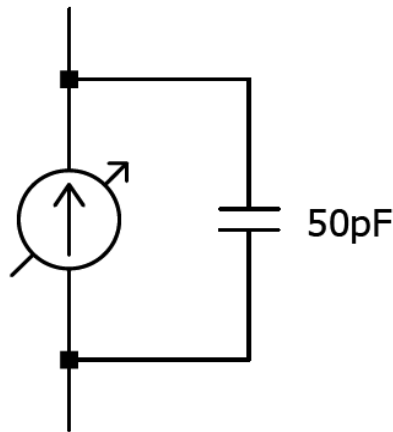

Figure 12.30: Current source model of a photo-diode.
1. Use the 5Spice circuit simulator to simulate the ideal theoretical behavior of the circuit in Lab 10 part 4a – choose a feedback capacitor which optimizes the theoretical behavior of the circuit. You will replace the photodiode with the following sub-circuit of figure 12.30 below.